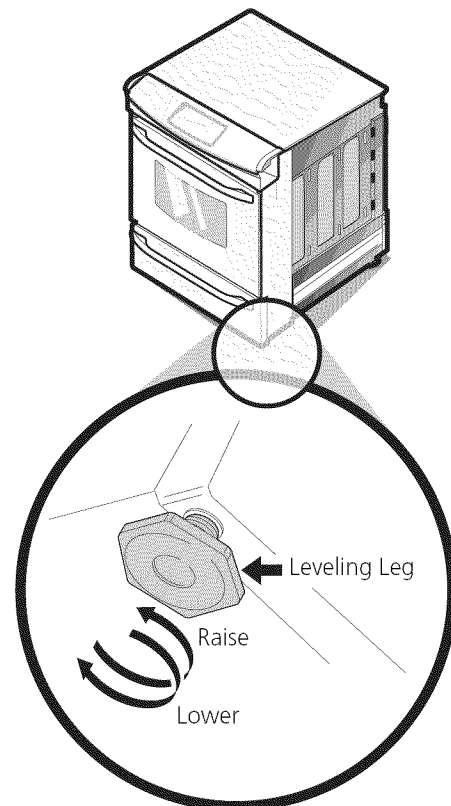

Figure 10
2. Place a level on the rack. Take 2 readings with the level placed diagonally in one direction and then the other. Level the range, if necessary, by adjusting the 4 leg levelers with a wrench (see Figure 10).
4. Level range if necessary, by adjusting 4 leg levelers with wrench. (See Figure 10 below.) A minimum clearance of 1/8" (0.8 cm) is required between the bottom of the range and the rear leg levelers to allow room for the anti-tip brackets.